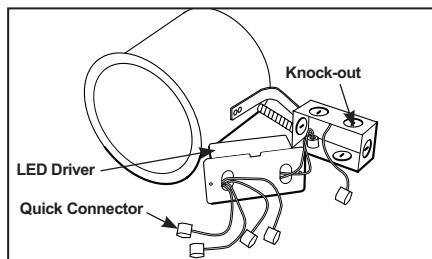

Figure 5
Step 2. Remove junction box cover. Remove the appropriate knock-out(s) to accommodate the type of electrical supply being used. (Fig. 5)
Step 3. Strip supply wire 3/8" and insert each supply wire into appropriate connector. Connect black fixture wire to hot, white fixture wire to neutral and green fixture wire to ground. (Fig. 5).